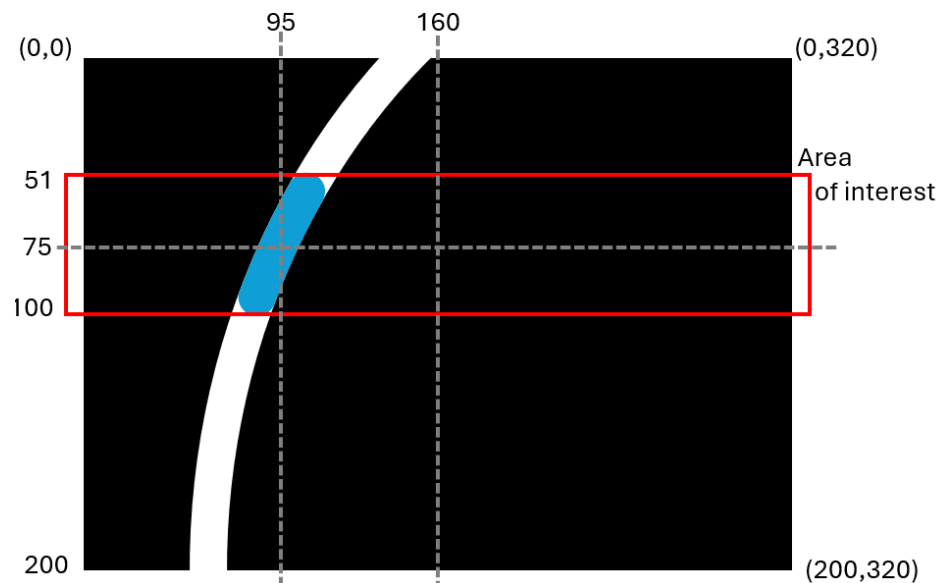

Figure 5. Image with the blob of interest in blue.
3. Find the error angle of the blob center based on the bottom center of the image. Use Figure 5 as a reference to find the correct geometric function to use. The angle error will be used for determining the turn speed command for the QBot.